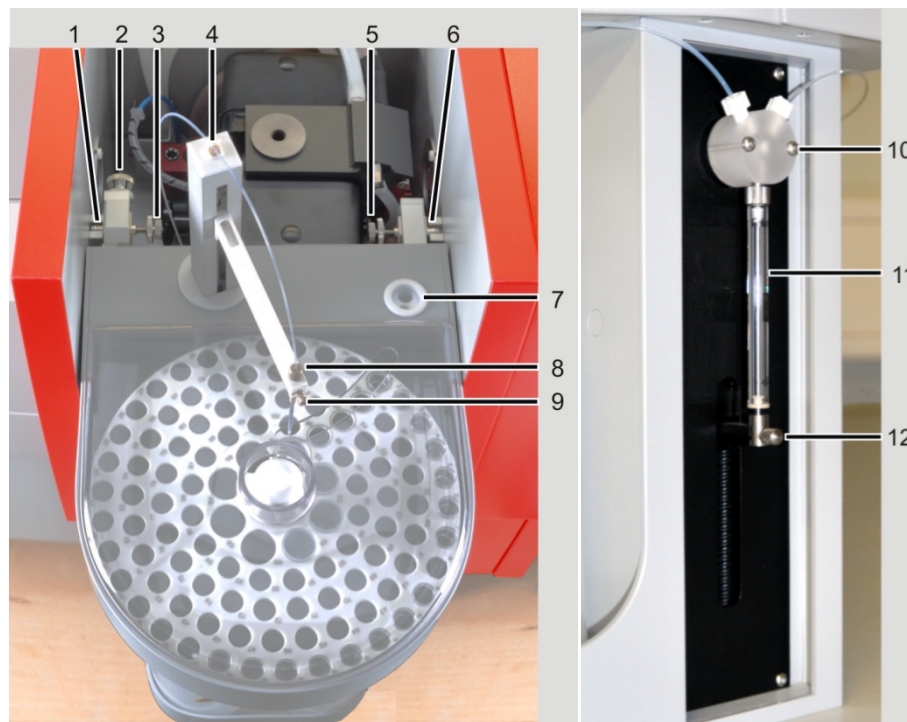

Fig. 35 Installing the AS-GF
1. Install the tube guide (8 in Fig. 35) to the autosampler arm of the AS-GF and attach using the lock screw.
2. Screw the dosing tube into the right opening of the T valve (10 in Fig. 35) on the dosing unit. Feed the dosing tube through the tube holder on the back of the autosampler and on the autosampler arm. Insert the dosing tube into the tube guide (8 in Fig. 35) until the tube end protrudes approx. 8 mm from the tube guide at the bottom; attach the tube using a clamp nut.